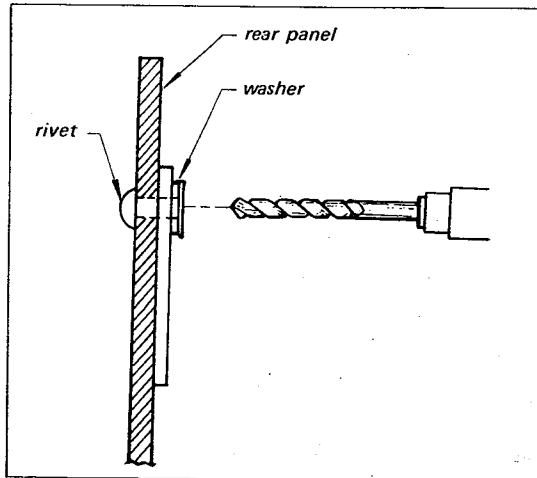

Fig. 2-18. Rivet replacement
2. Bore out the rivets using a drill bit slightly larger in diameter than the rivet. See Fig. 2-18.